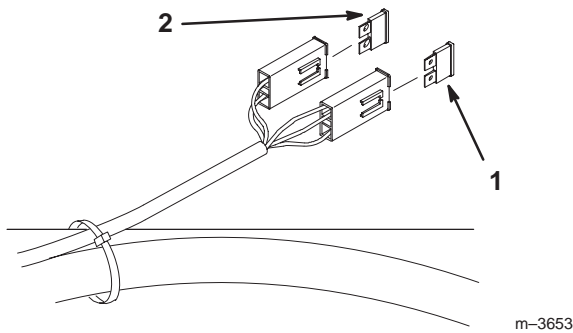

Figure 61
1. Raise the seat to gain access to fuse holder (Fig. 61).
2. To replace fuses pull out on the fuse to remove it (Fig. 61).